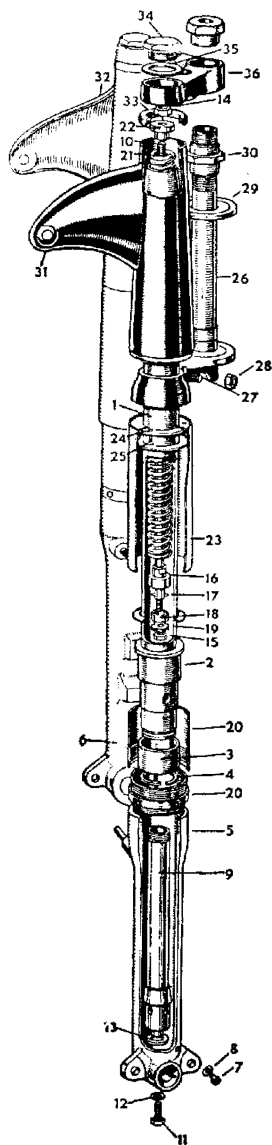

FIG 24
**Lubrication.** Use one of the grades of oil, S.A.E. 20 as shown in the table of lubricants. The normal oil content is five fluid ozs. (142 c.c.). Attention is only necessary at the first 1,000 miles and again at 10,000 miles when the oil should be changed by draining. An exploded drawing of the front forks is shown in Fig. 24 from which it will readily be seen that the fork springs abut against the filler plugs (34), before removing these plugs weight must be taken off the front wheel, by placing the machine on its central stand to avoid the forks collapsing.
**To drain the forks.** With the machine on the central stand: Unscrew the two filler plugs (34). Have available a container to catch oil drained, then remove the drain plug screw (7) with its washer, with the container under the fork leg. If the wheel is inclined to one side, draining will be more complete. Deal with the other fork leg in a similar manner.
**To remove the forks as a unit.** Follow the instructions given for removing a fork leg, as far as disconnecting the filler plugs from the damper rods. Proceed by taking off the headlamp leaving it suspended by the loom. Separate the control cables from the levers, and remove handlebars. Remove the column nut (37) then give the underside of the handlebar lug one or two blows with a mallet until it is clear of the fork tubes. At this stage support the ends of the forks, for after removing the sleeve nut (30) the forks will drop out. Watch for steel balls for the races, there are 18 in each race (36 in all) if a steering damper is fitted detach the fixed plate from the frame.
**To dismantle a fork slider.** Remove from the fork slider the bolt fixing damper tube (11). Unscrew the bottom cover (23), holes are provided for a C spanner. Take away the fork slider (5).
The damper tube with the fork spring can be extracted from the tube. To dismantle further, take off nut securing fork spring, unscrew the damper tube cap (16) with a tommy bar through the holes in the damper tube, for if this is held in a vice it will distort and become useless. The damper assembly sequence is clearly depicted in Fig. 24.